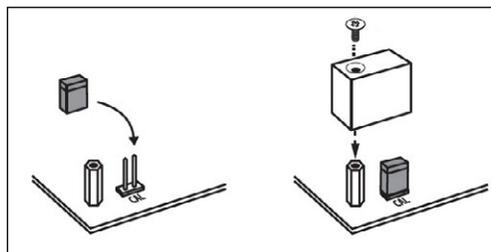

Figure 4-1. Closing the CAL Jumper
1. Short the CAL jumper to restrict access to setup mode. (Figure 4-1 on page 38)
NOTE: CAL jumper must be in place to prevent access to Setup mode at startup (Figure 4-1 on page 38).